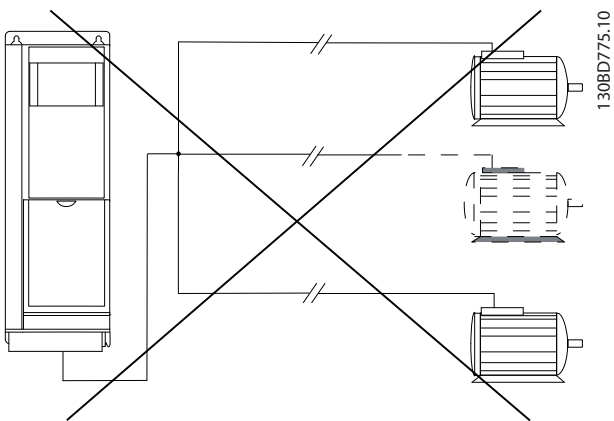

Figure 9.51 Common Joint Connection for Long Cable Lengths
- Do not use common joint connection for long cable lengths, see Figure 9.51.